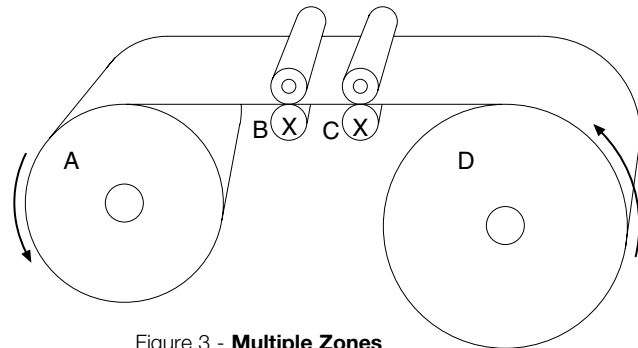

Figure 3 - Multiple Zones
**III.** More complex machines will usually have multiple intermediate zones in addition to the unwind and rewind zones (see Fig. 3). One of the intermediate zone drives will typically establish line speed, and the control of drive rolls for the other zones will relate to this drive. In some instances, a simple master/slave relationship with a speed differential ratio will provide the draw tension necessary in that zone (i.e. Fig. 3 – B & C). In other cases, this may be accomplished with